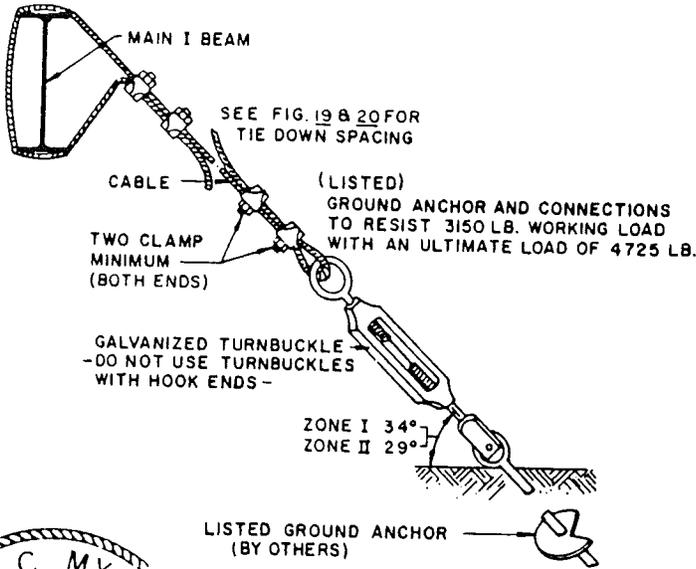

FIG. 21
2. Connect the cables to the frame and ground anchors as shown in fig. 21.